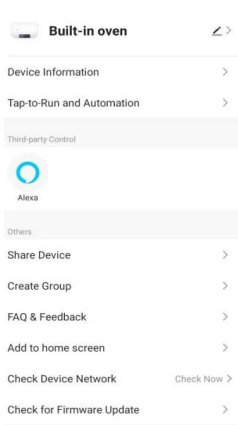

Fig.7
1. Click on the top right corner of the operation page icon "", enter the operation page, as shown in Fig.7: